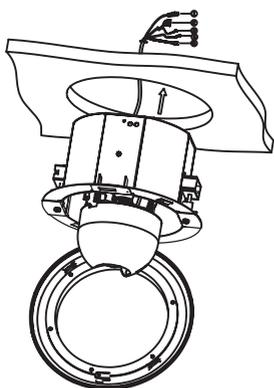

Figure 5
- (5) Glue the guide pattern on ceiling, drill the hole then mount the camera on ceiling. Please refer to Figure 5.